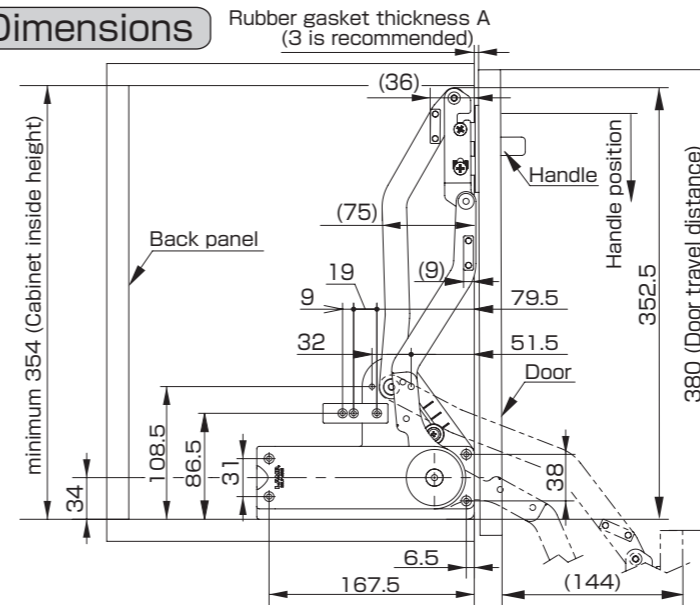

Fig. 3-1. Dimensions (SLD main body)
- (1) Line up SLD body ① and ② with the bottom and front of the cabinet and secure with screws ⑤ (Fig. 3-1 and Fig. 4).
- (1) Hang the door through the long hole using a screw ④ in the top bracket ③ hole and tighten the screw.
- (2) Secure assembly with a screw ④ through the bottom hole.
Remark: when installing the handle on the door, we recommend that it is installed in a position lower than bracket ③ as shown on Fig. 3-1.